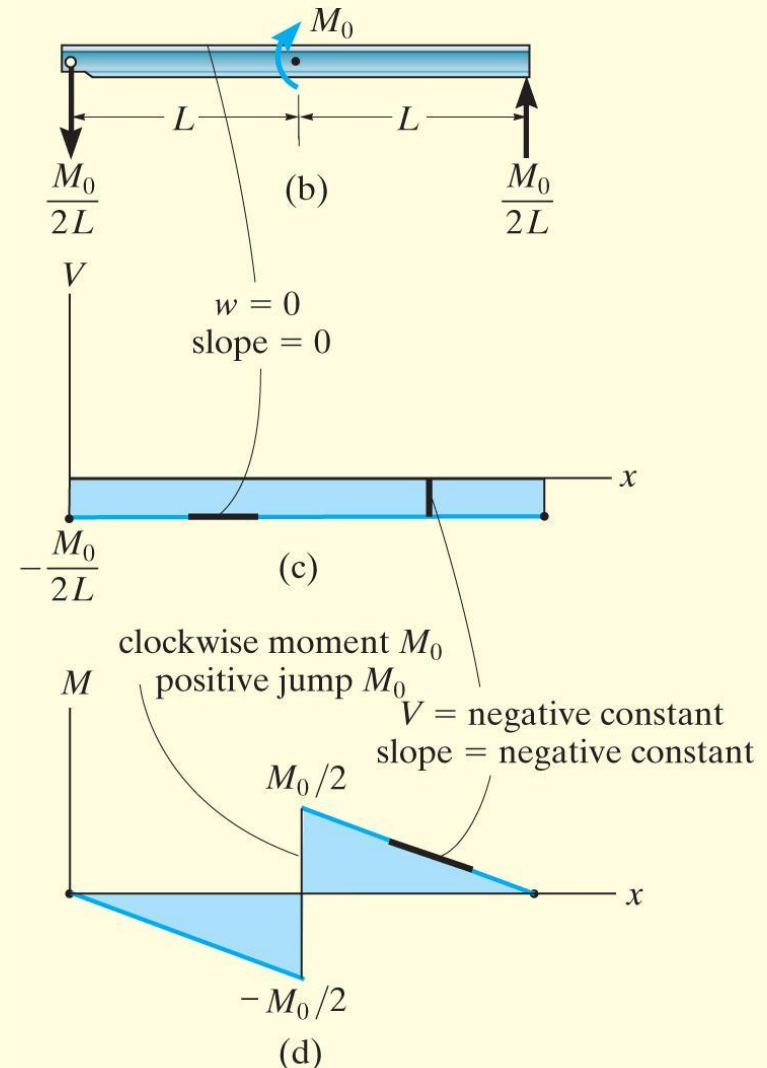

Fig. 6–12
- The reactions are shown on the free-body diagram in Fig. 6–12*b*.
- The shear at each end is plotted first, Fig. 6–12*c*. Since there is no distributed load on the beam, the shear diagram has zero slope and is therefore a horizontal line.